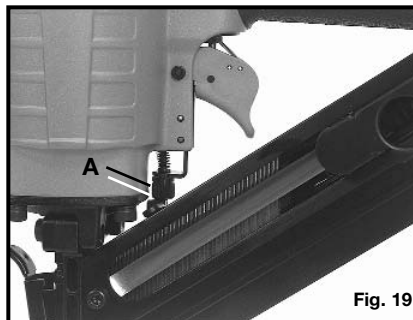

Fig. 19
The depth to which a fastener is driven is controlled by the depth adjustment knob (A) Fig. 19. The depth of drive is factory adjusted to a nominal setting. Test fire a fastener and check depth. If a change is desired, rotate the adjustment knob (A) Fig. 19: the adjustment knob has detents every $\frac{1}{4}$ turn. Rotate the knob clockwise (see Fig. 19), to increase the depth of drive, rotate the knob counterclockwise to decrease the depth of drive. Test fire another fastener and check depth. Repeat as necessary to achieve desired results. The amount of air pressure required will vary depending on the size of the fastener and the material being fastened.